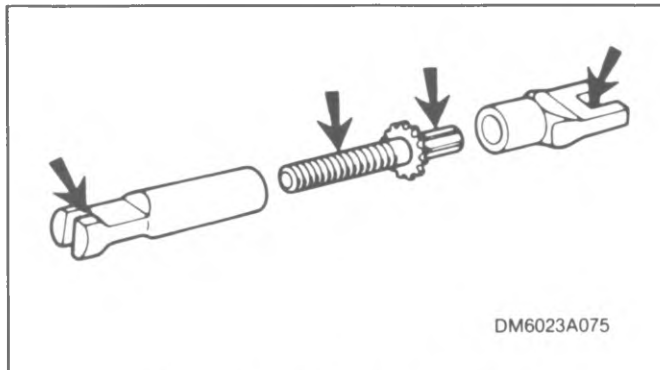

Figure 4-31. Strut Lube Points
15. Disassemble, clean and lubricate strut (11) at points shown in figure 4-31. Reassemble strut.